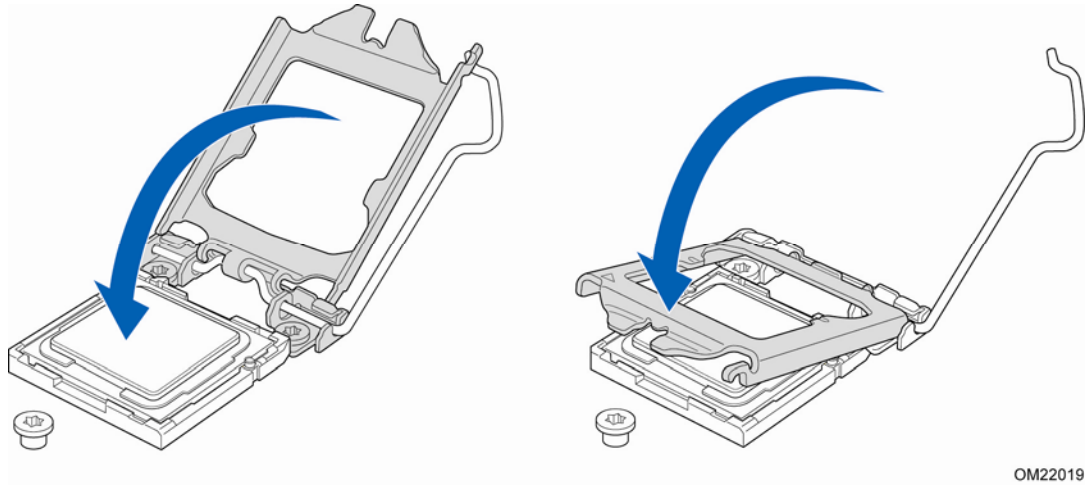

Figure 11. Lower the Load Plate
7. Lower the load plate over the processor while leaving the socket lever in the open position (Figure 11).